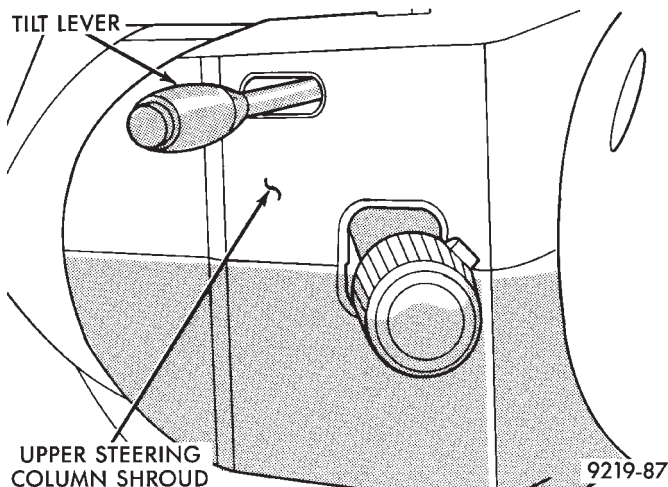

Fig. 6 Upper Steering Column Shroud And Tilt Lever
(3) Remove the tilt lever (Fig. 6) (if so equipped) from the steering column assembly.
(4) Remove the 3 screws mounting the upper steering column shrouds to the steering column assembly and remove shrouds (Fig. 6).
(14) Install the upper steering column shrouds on the steering column (Fig. 6). Tighten the 3 upper shroud to steering column attaching screws.
(15) Install the tilt lever (Fig. 6) (if so equipped) back on the steering column assembly.